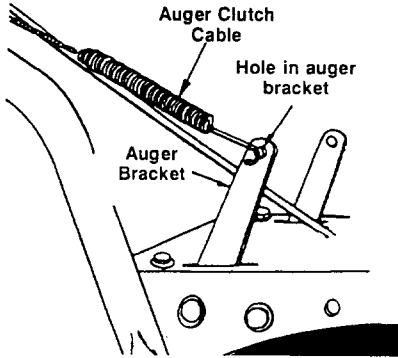

FIGURE 17
- With the clutch grip in the up (released) position, swing the left hand clutch cable down and simply hold it beside the auger bracket. Without forcing the bracket hold it up just enough to remove the play. The hook on the end of the spring must line up with the centre of the hole in the auger bracket. See figure 17.
If it does not, adjust the nut on the cable by sliding the spring up and using a 7/16" wrench to move the nut on the end of the rod up or down as necessary until the hook on the spring aligns with the centre of the hole in the bracket as shown in figure 17. Hook spring into auger bracket.